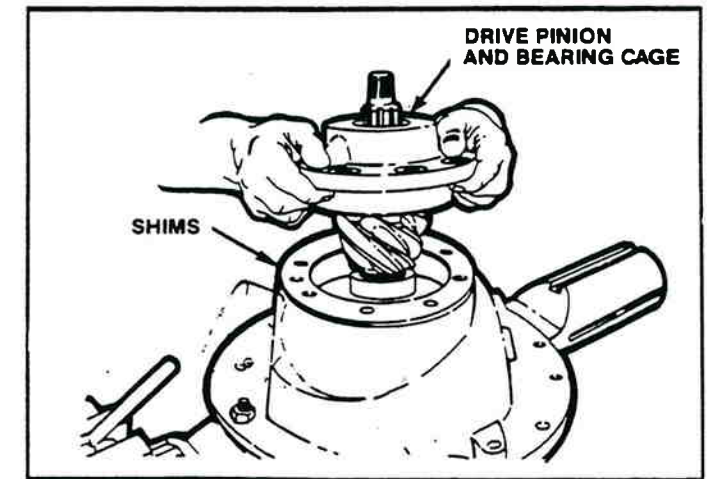

Figure 2-24. Removing Drive Pinion And Bearing Cage.
7. Remove the drive pinion, bearing cage and shims from the carrier. If the bearing cage is tight in the carrier, use the following procedures to loosen the cage (Figure 2-24).